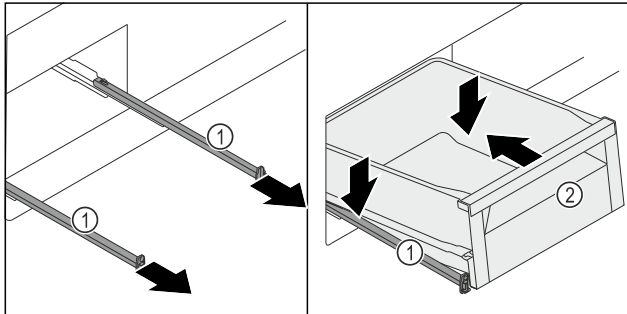

Fig. 129
- Pull out the rails Fig. 129 (1).
- Hold the rails Fig. 129 (1) firmly and place the drawer Fig. 129 (2) diagonally from above onto the rails Fig. 129 (1).
- Push the drawer Fig. 129 (2) on the rails Fig. 129 (1) to the back as far as it will go.